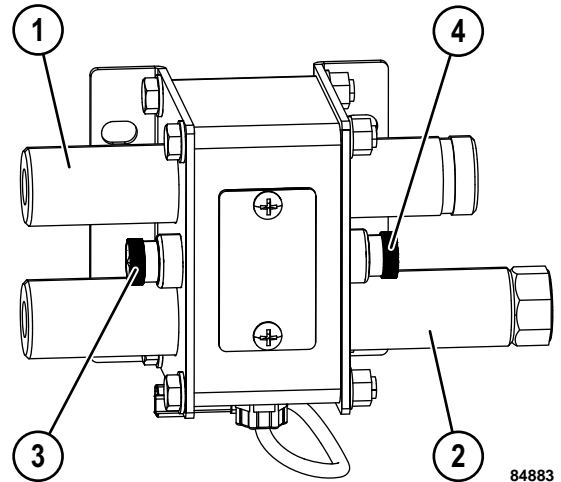

FIGURE 31-3. PUMPING UNIT
After engine startup, allow the pumping unit to run for 5 minutes before operating the truck. Green LED (3, Figure 31-3) should remain solid and red LED (4) should be off. This verifies that the system is working properly, pumps 1 and 2 are synchronized and pumping oil, and the engine oil level is correct.